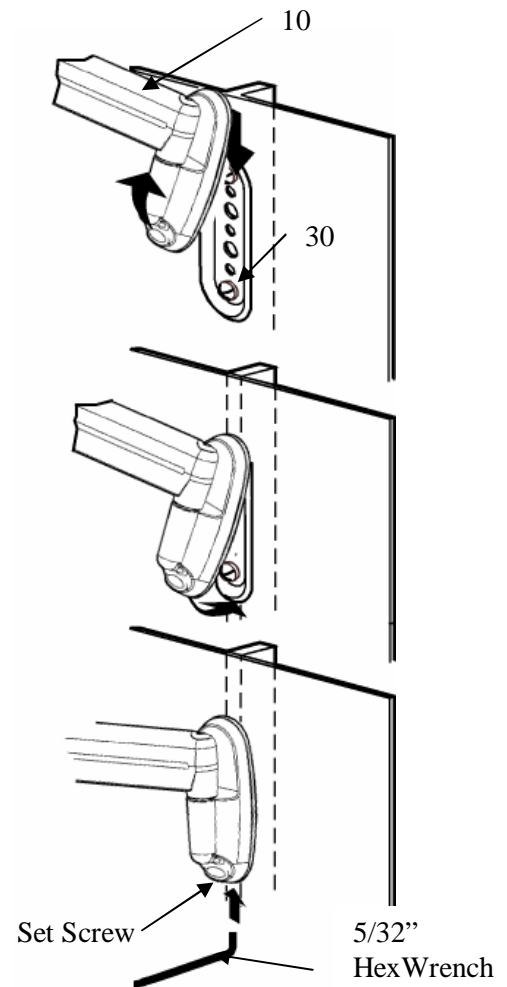

Figure 5. Attach Mount to Wall Bracket
2. Using 5/32" hex wrench (160), secure mount to wall bracket by tightening set screw (see Figure 5). Ensure set screw engages *back* side of bracket to properly secure mount.